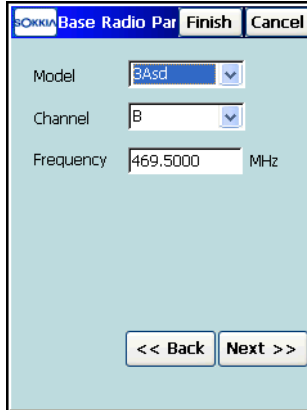

Figure 4-14. Satel Radio Parameters
- For the Satel modem, set the model, channel and frequency of connection (Figure 4-14).